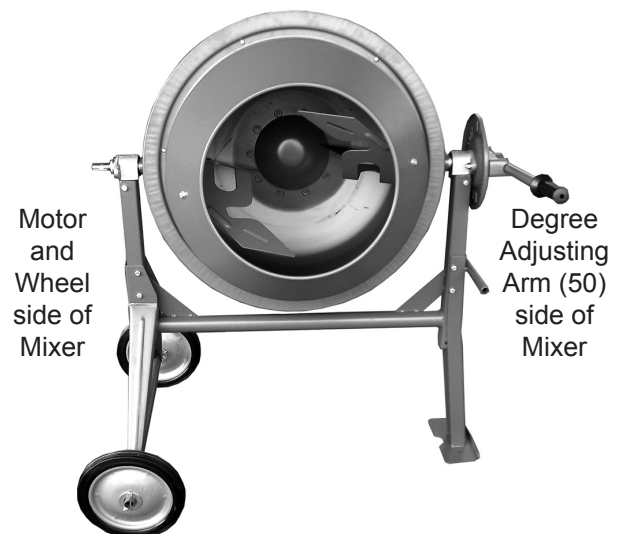

Figure 11
1. Position the Mixer with the Motor and Wheel side on the left, and tilt the Drum as shown in Figure 11.